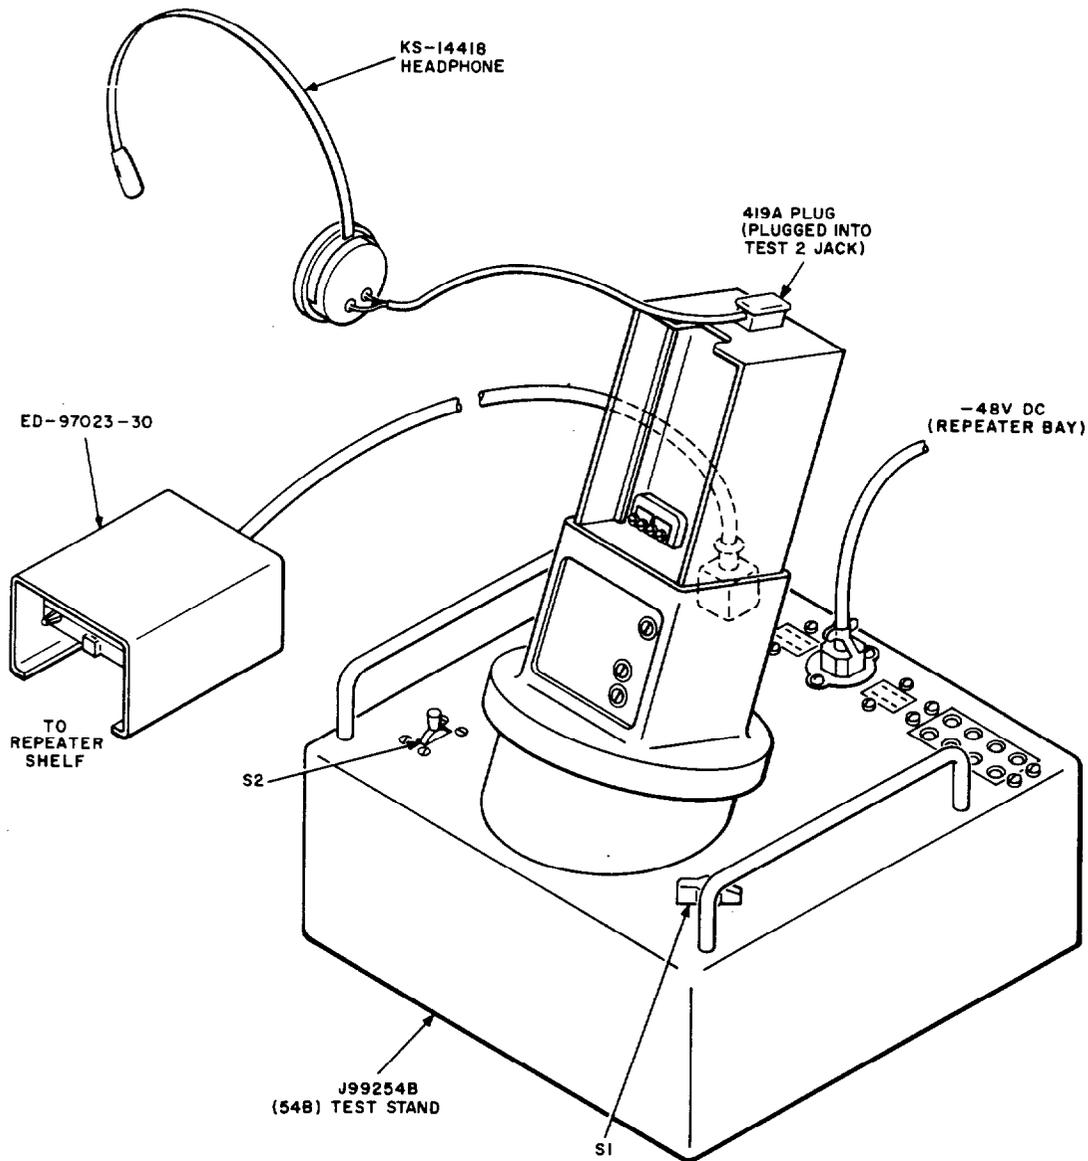

Fig. 6—Stability Test—Test Equipment Connections
- 3 Patch from the vacant position on the repeater shelf where the E6 repeater will be installed to the 54B test stand LINE EXT A and B jacks by using the ED-97023-30, Group 2 cord as shown in Fig. 6. Insert the plug gently in order not to damage the shelf-connector spring contacts. Rotate the turret of the 54B test stand to bring the 830-type networks forward for easy accessibility. The network connected to line A is uppermost.
- 3 Connect the 54B test stand to the repeater shelf, to the 54C RLMS, and to the 4097-type network (Section 103-104-10Z) as shown in Fig. 6. Table B provides data for transcribing the value of inductance obtained with the 4097-type network to the 830C network.